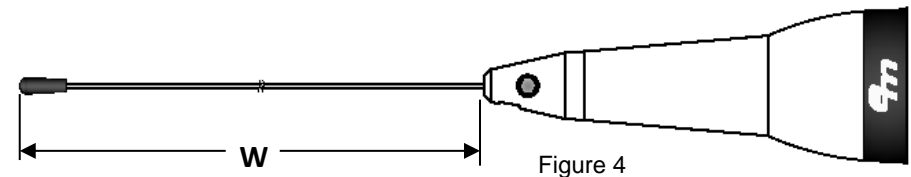

Figure 4
- NOTE:** The tuned length "W" is determined by measuring the distance between the top of the whip adapter and the top of the whip. **See Figure 4.** Cut length dimension will be approximately 1" (25mm) longer than Tuned Length "W".
- Cut the whip as required to establish the specified Tuned Length "W" as shown in Figure 4.